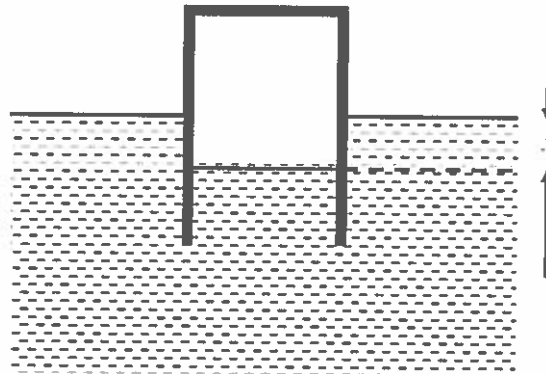

Fig. 1
- 1 (short) A thin-walled cylinder with cross-sectional area A and mass m is floating with displaced depth x in liquid with density ρ as shown in Fig. 1. By considering the equilibrium air pressure inside the cylinder, or otherwise, find the depth x in terms of m , ρ and A . [10]